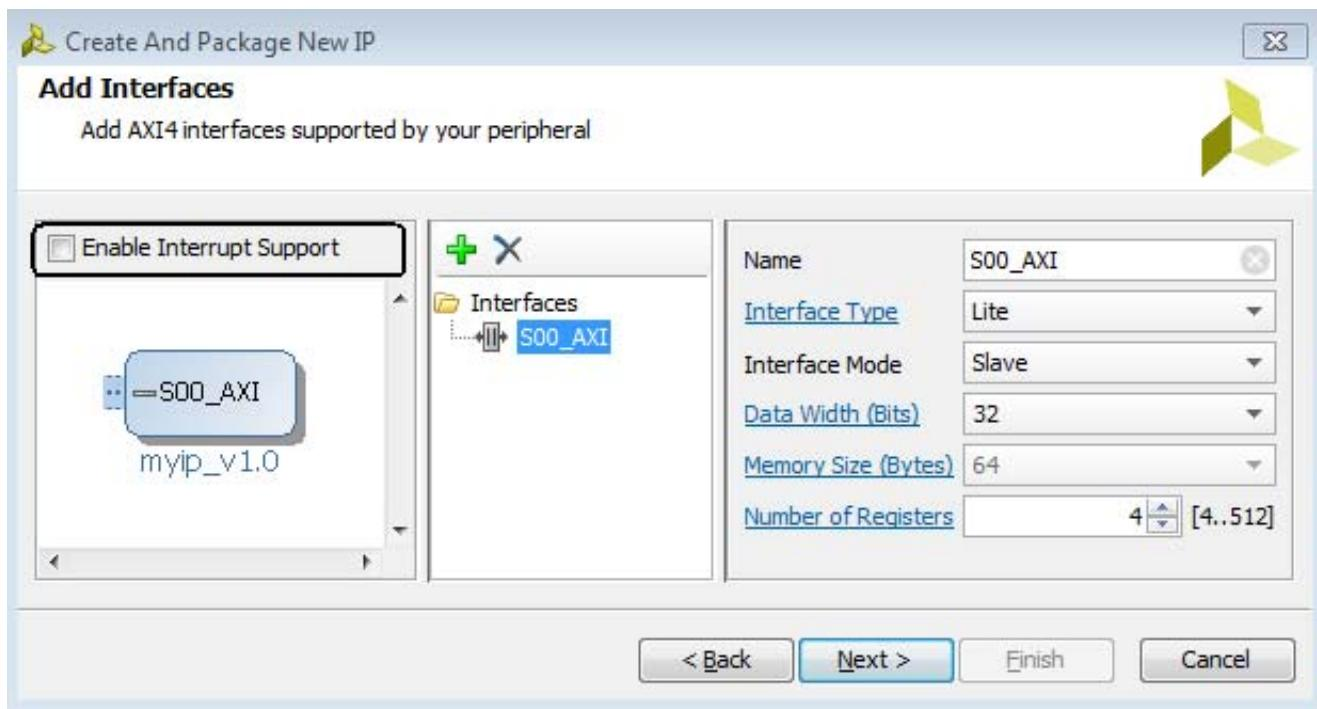

Figure 8-10: Create and Package New IP: Add Interfaces Dialog Box
4. Add interfaces to your IP based on the functionality and the required AXI type (Figure 8-10).
5. To include interrupts to be available in your IP, check **Enable Interrupt Support** (highlighted in Figure 8-10).